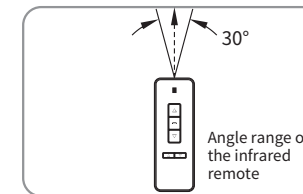

Figure 11
2. Remote effective angle:  $\pm 30^\circ$  from the transmitter axis (Figure 11).